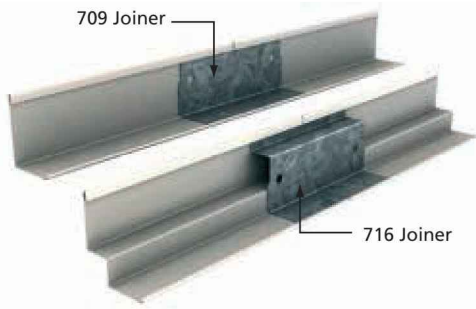

FIGURE 1: WALL ANGLE JOINERS
- 3 Mark the ceiling height on the walls and fix the perimeter trim with suitable fasteners at max. 600mm centres, ensuring the fixing is made into the studs. Mitre the corner intersections and use joiners to connect angles as per Figure 1.